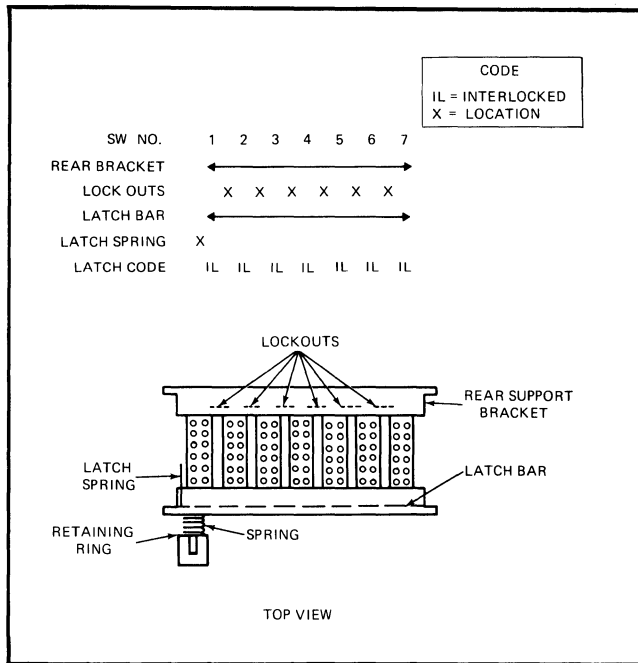

Figure 4-4. RANGE SWITCH ASSEMBLY
- c. Remove four (4) mounting screws which secure RANGE switches to switch assembly brackets.
- f. Straighten all locking tabs on rear support bracket. (Figure 4-4.)
- i. Insert a tool between the latch bar and switch shaft on adjacent switch (Figure 4-4).
- e. Install new switch module by reversing foregoing procedure. Refer to Figure 4-4 for assembly of RANGE SWITCH assembly.